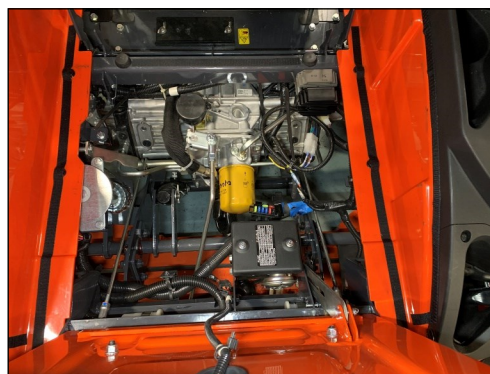

Fig. 7.8 (Route Wiring)
- 7.8 See fig. 7.8. Route the remaining section of the harness with the white connector on the end forward from the battery area over the ROPS and up under the seat. The harness should run across the top of the transmission along the existing OEM harness and end on the left side of the vehicle.